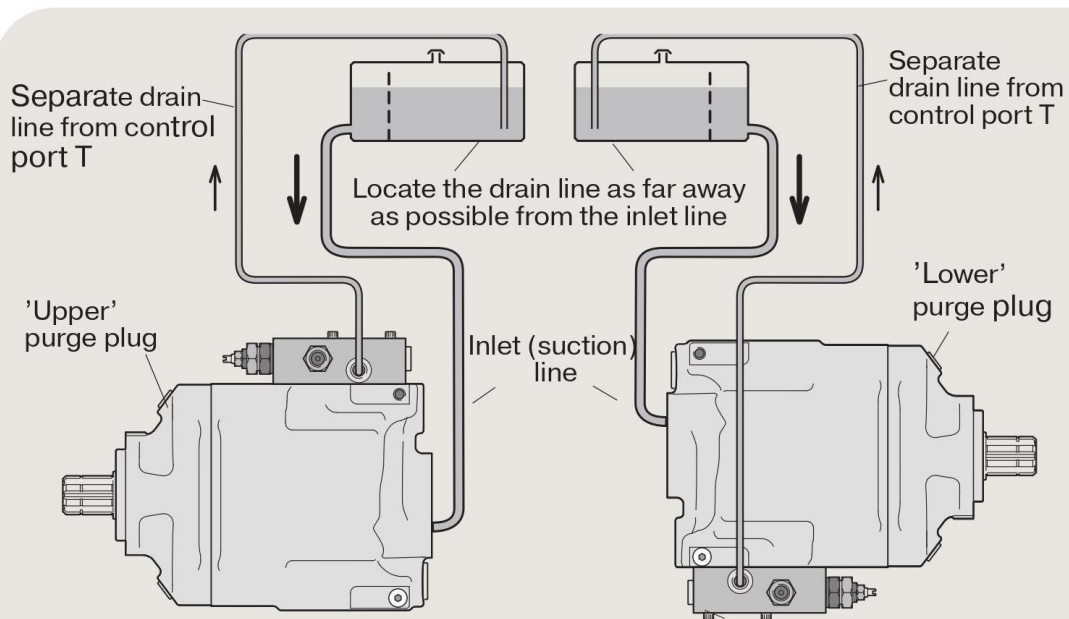

Fig. 6. Purging the VP1-095/-110/-130 (right hand pumps shown)
4. The pump should be installed below the lowest oil level in the reservoir (fig. 6, pg. 5);
5. A separate drain line must be installed between the control drain port T and the reservoir (refer to fig. 6, pg. 5); connect the drain line directly to the oil cooler (if the hydraulic system is so equipped).
- The pump must be filled with fluid and then purged before start-up (fig. 6). Please note, that purging should only be performed when the pump is connected to the reservoir and the entire system is filled with hydraulic fluid.
- As previously pointed out, a separate drain line is required between control port T and the reservoir (fig. 6).